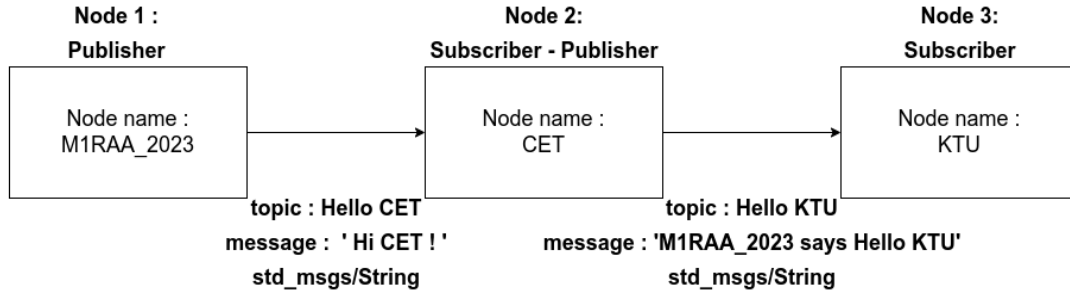

Figure 1: Illustration of nodes and messages for assignment 2 question 1
- **Question 1:** Realize the ROS nodes and messages as shown in the figure 1 below